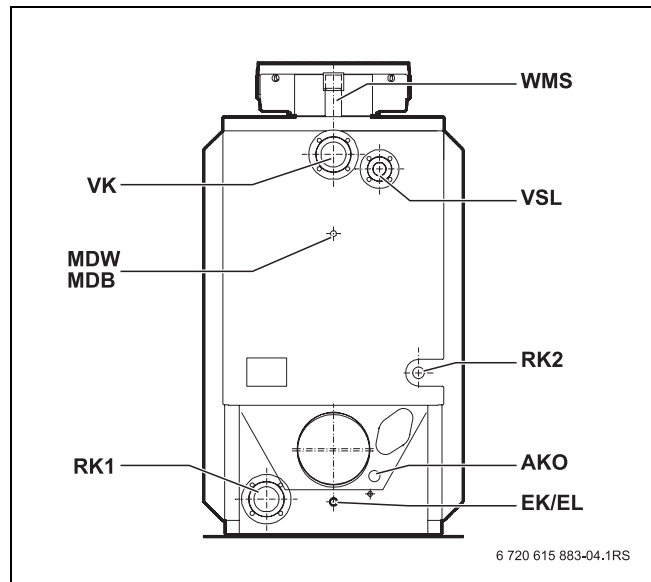

Fig. 6 Logano plus SB615 Gas boiler connections
- ▶ Connect the heating system return to the boiler return connections RK1 and RK2 (→ Fig. 6).
- ▶ Connect the heating system flow to the boiler flow connection VK (→ Fig. 6)
- ▶ Never connect a DHW cylinder or other heating circuit to the VSL safety line flow connection (→ Fig. 6).
- ▶ Fasten the relief valve to the VSL safety line flow connection using 4 screws (→ Fig. 6).